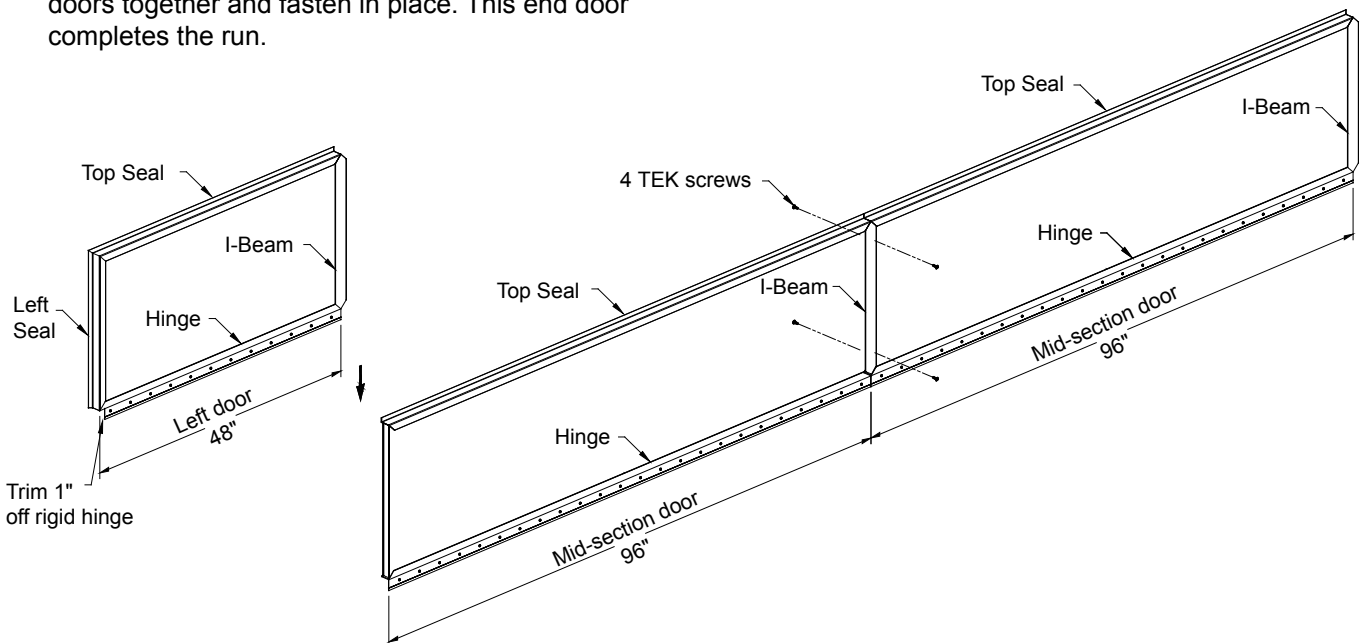

Figure 13
12) **IMPORTANT** – Reopen doors and install Tek (self tapping) screws, two on front and two on back, where the I-Beam overlaps the bare edge of the mating door. The Tek screw should go through the I-Beam and corrugated plastic cover sheet. The screws will mechanically fasten the two doors together. **See Figure 13.**